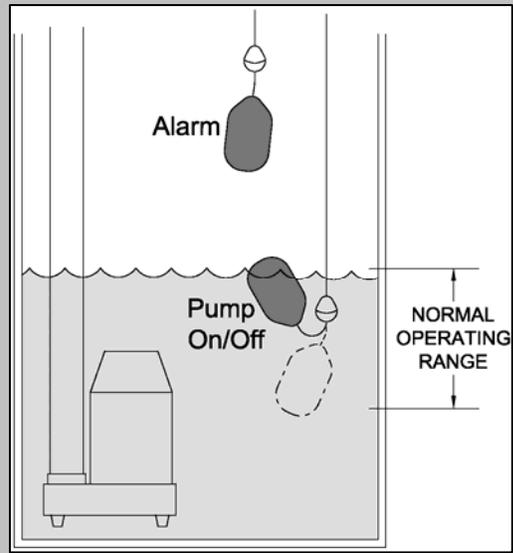

Figure 2
- b. If using a single wide-angle float for pump operation, see **Figure 2** instead.